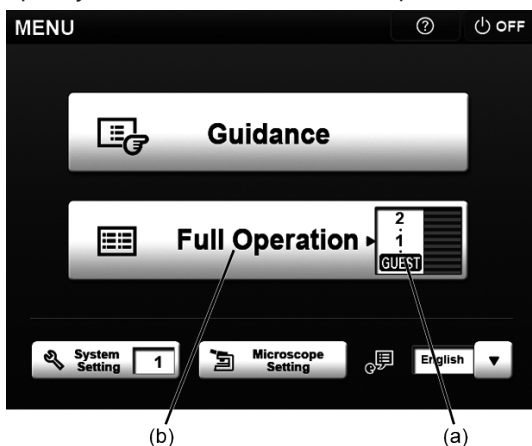

Fig.1
3. If you are using the scanning stage with ultrasonic, set the main switch of its control box to " | " (ON).
4. Set the main switch of the BX3-CBH control box to " | " (ON).
5. Set the main switch on the rear panel of the touch panel controller to ON. After 30 seconds, the [MENU] screen appears on the touch panel. (Fig.1)